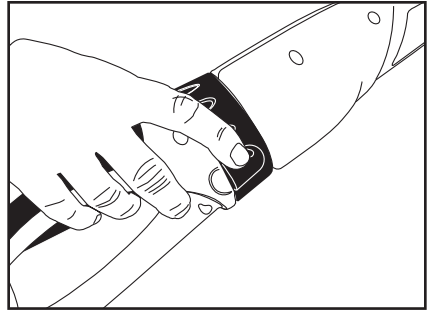

Figure 8
3. Grasp the pole firmly with one hand and twist the lock ring on the power handle to the locked position with the other hand. (see figure 8)